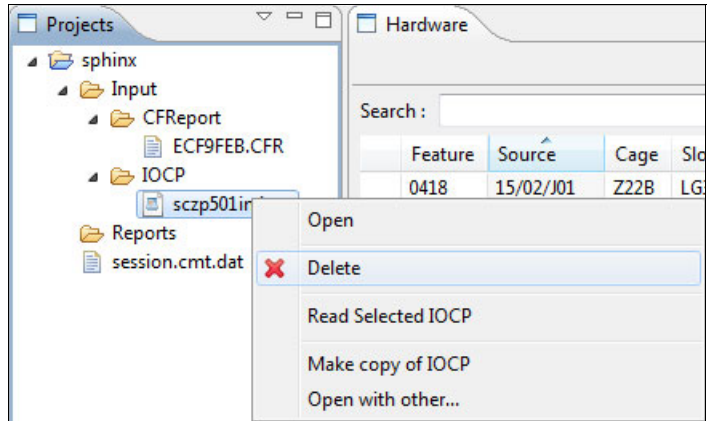

Figure 6-70 CMT - Reading the selected IOCP
3. In the Projects pane, under the Input tab, expand the IOCP tab, right-click on the IOCP file, and select **Read Selected IOCP** (Figure 6-70).